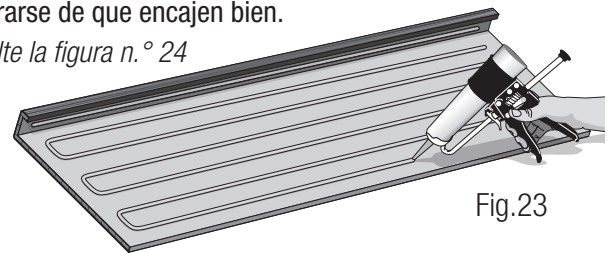

Fig.23
4. Generously apply construction adhesive over the entire surface of the 2 LEGACYSTAIR stair tread caps in 6 mm (1/4 in.) thick continuous beads spaced approximately 40 mm (1.5 in.) apart. Keep 25 mm (1 in) from the edges to avoid the adhesive from bleeding through the edges. Refer to Figure 23.